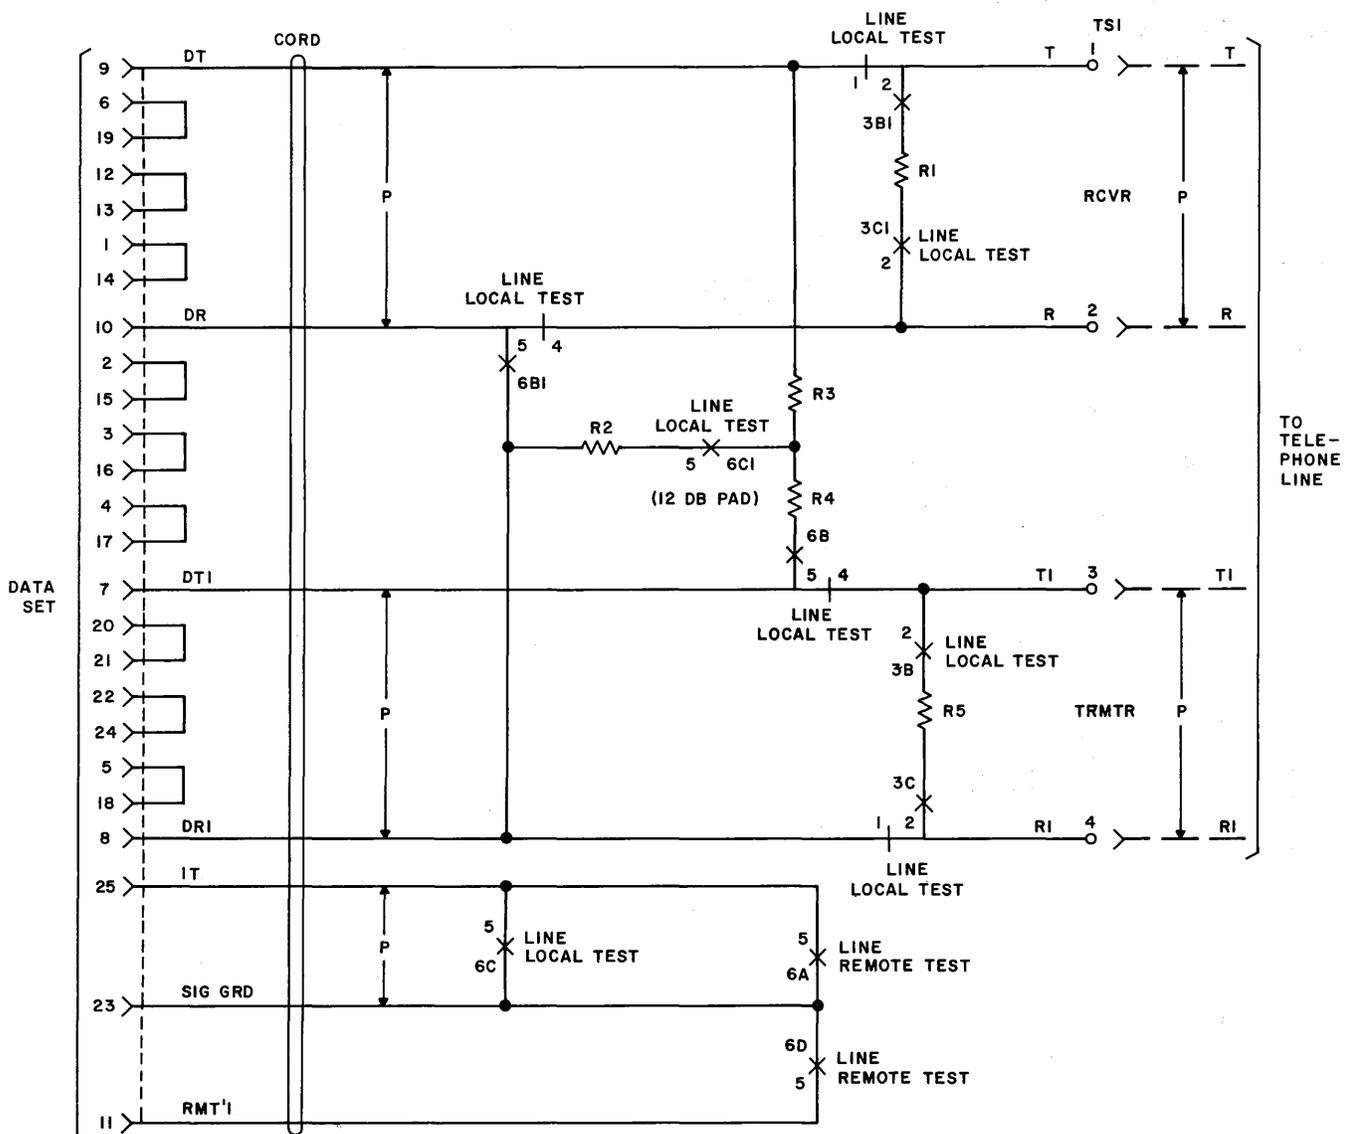

Fig. 2 — 4B1 Data Unit, Simplified Schematic
3.02 By placing the 3-position line-test key in the LINE position, the 4-wire telephone line is connected through the unit to the data set (i.e., DT to T, DR to R, DT1 to T1, and DR1 to R1) (Fig. 2).